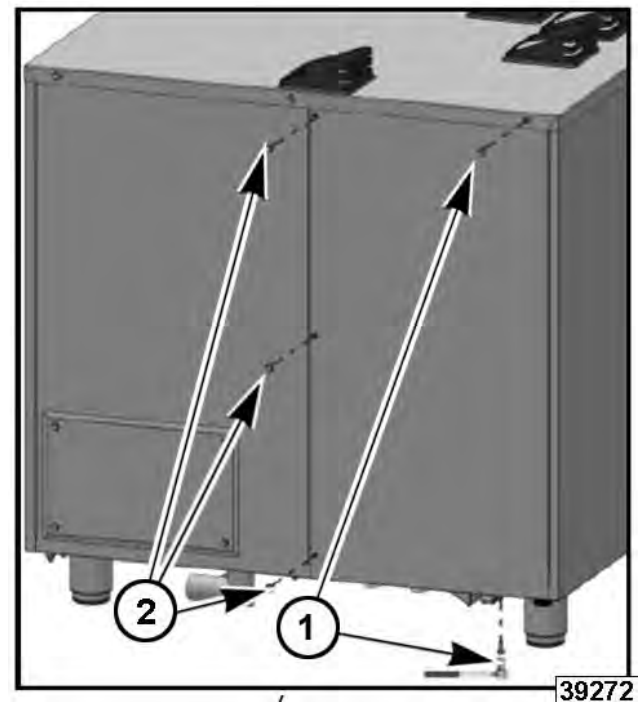

Fig. 5
2. Remove mounting screws (2, Fig. 5) on left side of rear panel.